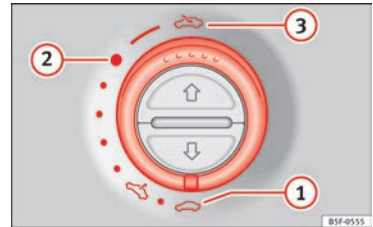

Fig. 11 On the interior roof lining: use the rotary button for opening and closing
- Opening: Turn the switch to position » **Fig. 11 ③**.
- Convenience position: Turn the switch to position » **Fig. 11 ②**.
» Fig. 11 ①.